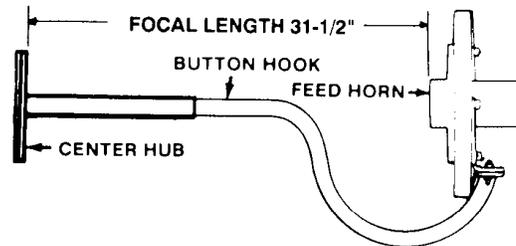

FIGURE 10
STEP 2: The focal length is 31-1/2". This distance should be set between the focal point reference of the feedhorn and the front surface of the clamp plate of the buttonhook. Focal length adjustment is accomplished by loosening the bolt holding the buttonhook assembly in the center hub of the antenna and sliding it in or out as necessary. See Figure 10 and 11.